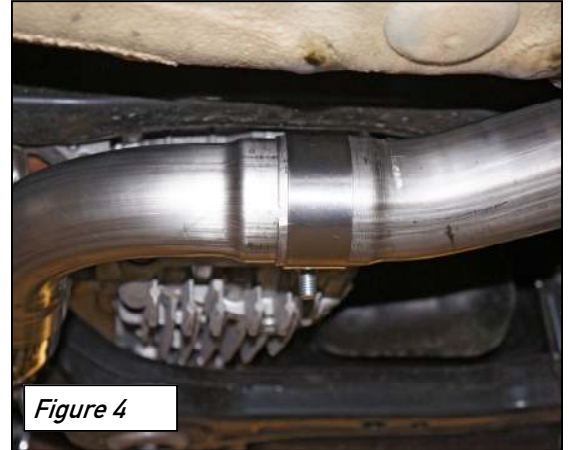

Figure 4
**Figure 4** shows the overlap between part ER and part ED. Use an impact gun to tighten down this clamp after final adjustment. Tighten to 40ftlbs.